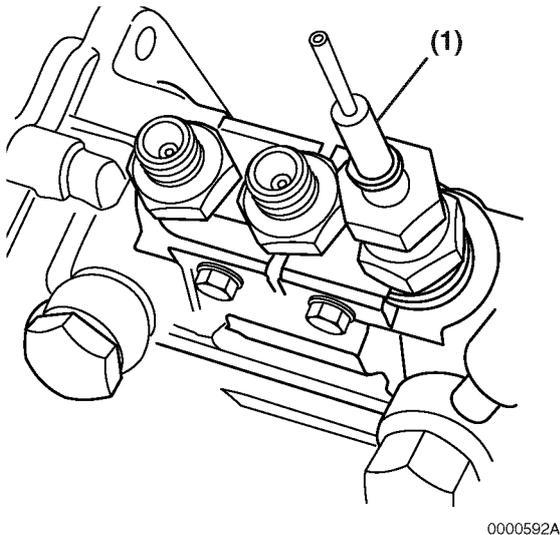

Figure 7-28
13. Install the “spill-timing” tool (**Figure 7-28, (1)**) onto the delivery valve for the cylinder being checked. See *Measuring Instruments on page 7-7*.